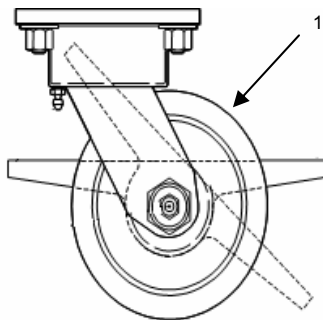

Figure 3-15. Lock Caster to prevent rolling.
2. Lock or remove the caster assemblies (Figure 3-15, Item 1) to prevent rolling of the HVASC. To remove the caster assembly, refer to page 3-7.